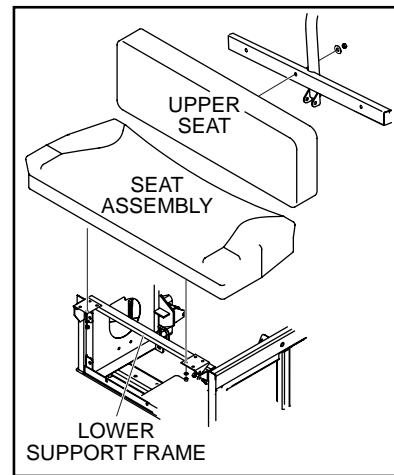

Figure 12
The seat is installed in two pieces, the seat assembly and the upper seat (Figure 12).
1. While supporting the upper seat (Figure 12), remove five nuts, flat washers and lock washers securing the upper seat to the center rear bar.